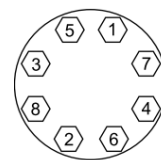

Fig. 5: Cross tightening
- Install the remaining bolts (Fig. 5). Always tighten bolts in a cross pattern. Uneven bolt tightening may result in increased torque on the valve.